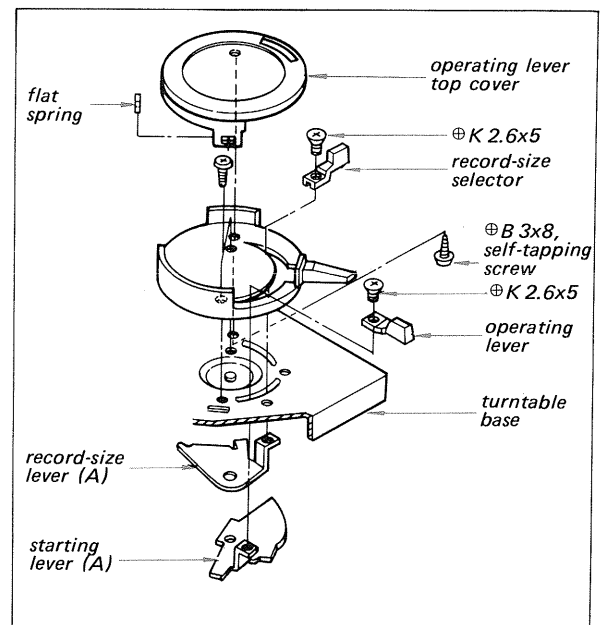

Fig. 2-15. Operating lever and record-size selector removal
4. Remove the self-tapping screw ($\oplus B 3 \times 8$) and the flat spring securing the Operating Lever Top Cover to the turntable base as shown in Fig. 2-15. This frees the top cover.